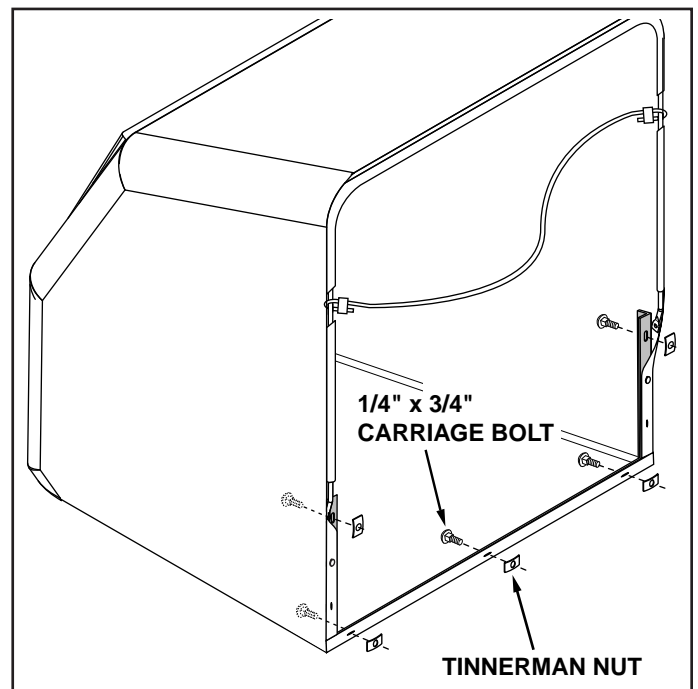

FIGURE 18
- Assemble the five 1/4" x 3/4" carriage bolts and tinnerman nuts as shown, leaving the nuts loose enough that the bolts can slide back and forth in the slots. See figure 18.